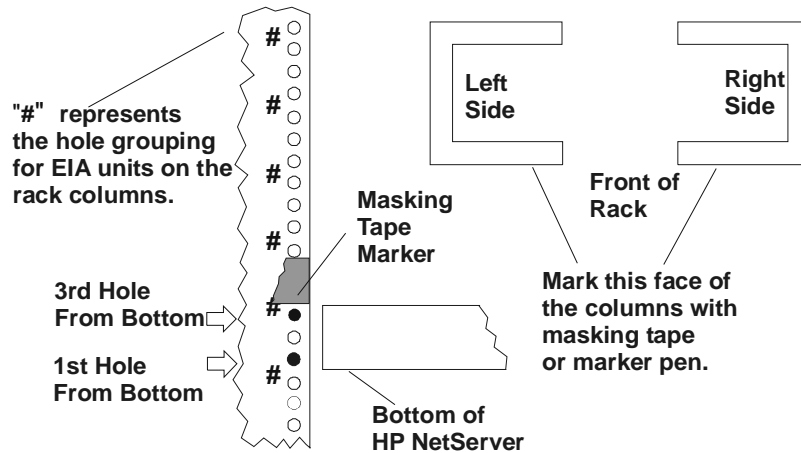

Figure 7-2. Locations on the Rack's Front Columns
1. Use the mounting brackets to help find the Netserver location on the columns, as shown in Figure 7-2.
2. Use the masking tape (or marking pen) to mark above the 3rd hole up the on face of both front columns, as shown in Figure 7-2.
The masking tape or marking pen (marker) should provide the location of the holes on the two columns. See Figure 7-2.